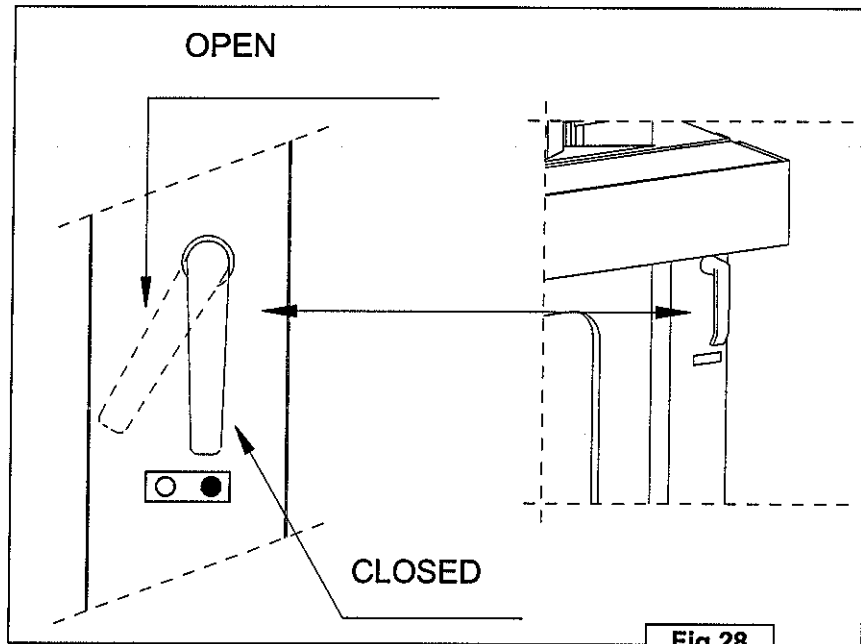

Fig.28
-Open the manual lock on the steam box (Fig.28), close and lock the door, switch on the steam suction  switch and the air recycle switch .